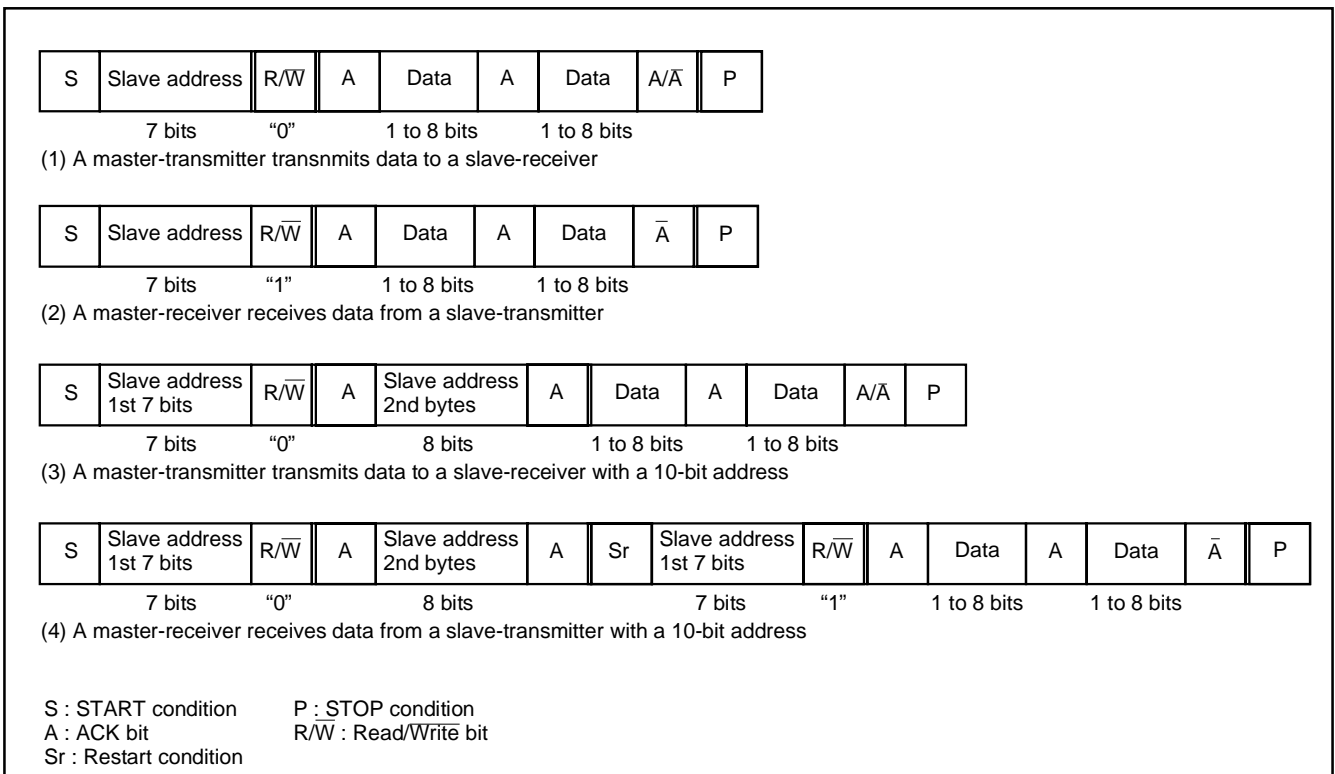

Fig. 42 Address data communication format
To adapt the 7-bit addressing format, set the 10BIT SAD bit of the I2C control register (S1D) to "0". The first 7-bit address data transmitted from the master is compared with the high-order 7-bit slave address stored in the I2C address register (S0D). At the time of this comparison, address comparison of the RWB bit of the I2C address register (S0D) is not performed. For the data transmission format when the 7-bit addressing format is selected, refer to Figure 42, (1) and (2).
When the first-byte address data agree with the slave address, the AAS bit of the I2C status register (S1) is set to "1". After the second-byte address data is stored into the I2C data shift register (S0), perform an address comparison between the second-byte data and the slave address by software. When the address data of the 2 bytes agree with the slave address, set the RWB bit of the I2C address register (S0D) to "1" by software. This processing can make the 7-bit slave address and  $\overline{R/\overline{W}}$  data agree, which are received after a RESTART condition is detected, with the value of the I2C address register (S0D). For the data transmission format when the 10-bit addressing format is selected, refer to Figure 42, (3) and (4).